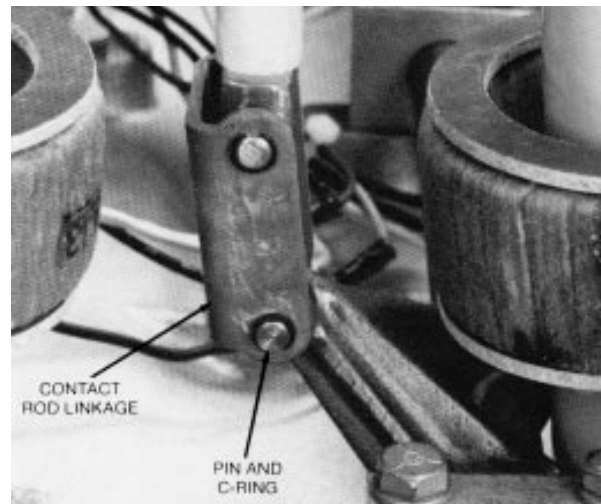

Figure 14.
1. With the switch mechanism removed from the tank, remove the C-ring and pin securing the contact rod link to the shaft lever (Figure 14).
3. Lift the contact housing off the bushing assemblies (Figure 14).